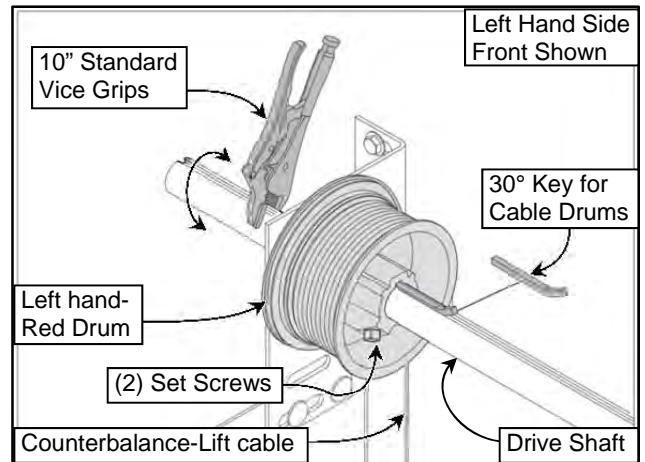

Figure 48
7. Using a Vice Grip Pliers, turn the counterbalance-drive shaft just enough to allow for removal of the cable being replaced. If necessary, you may loosen the set screws and take out the key to allow the drum to turn freely on the shaft. (See Figure 48)